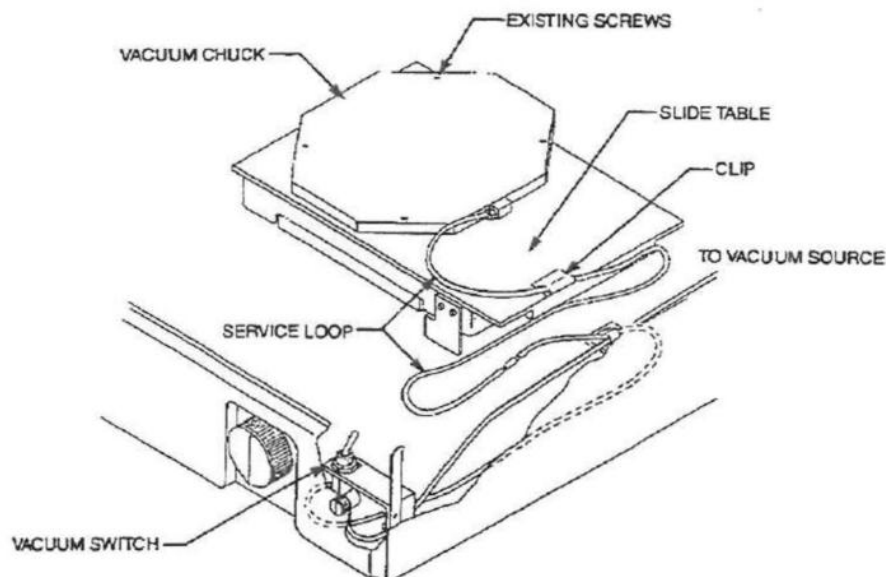

Figure C-2 - AUTO I Stage and Tube Routing
8. Attach the clip to the top of the slide table approximately 2.5" from the front edge. The tube should be flush with the side edge of the slide table when installed in the clip (see Figure C-2).
3. Click-on "Compute Stress" from the Analysis Menu. The stress dialog box will be displayed (see Figure C-2).